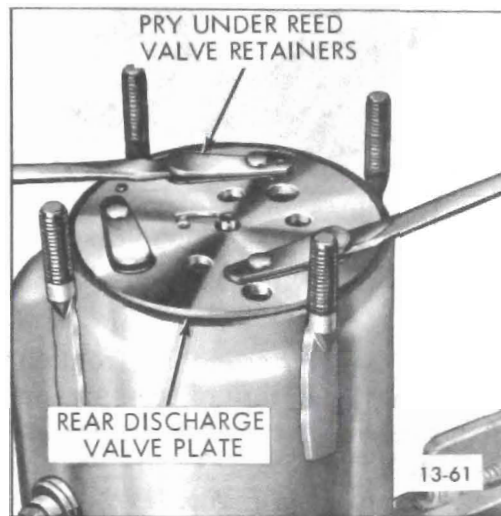

Figure 13-85 Removing Rear Discharge Valve Plate
9. Carefully pry out rear discharge valve plate and rear suction valve reed disc with screwdrivers (see Figure 13-85 and 13-86). Check both pieces and replace as necessary.